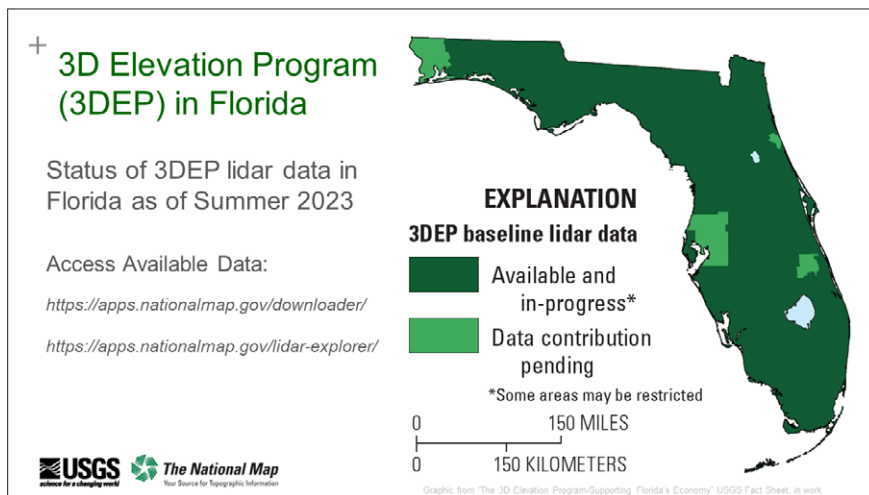

Figure 6: How to access 3DEP data through The National Map.
**USGS:** Alexandra “Xan” Fredericks (USGS National Map Liaison) presented a variety of National Geospatial Program initiatives. She started with the current status of 3D Elevation Program (3DEP) lidar in Florida, sharing links to access and view the available data via The National Map and the 3DEP Lidar Explorer (Figure 6). Xan went on to discuss the 3D National Topography Model (3DNTM) and how Florida 3DEP data support this larger vision of integrating national elevation and hydrography datasets into a 3D model.